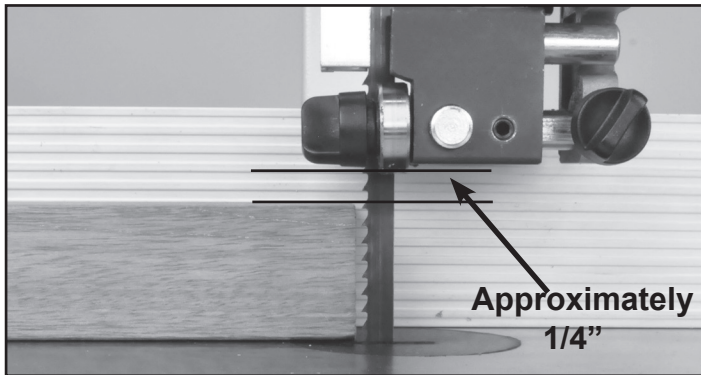
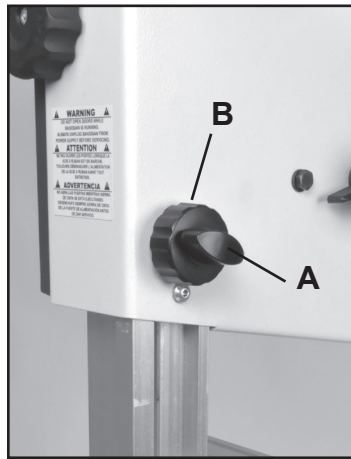

FIGURE 28
FIGURE 29
NOTE: Before cutting, set the upper guide bearings approximately $1/4$ " above the top surface of the work piece. This will give the best blade control. FIG. 28.
1. Loosen the Guidepost Lock Knob (#141, FIG. 29, A) and turn the Guidepost Handle (#140, FIG. 29, B) to raise or lower the guide post/upper blade guide assembly to the desired height above the table or work piece. FIG. 28 & 30.